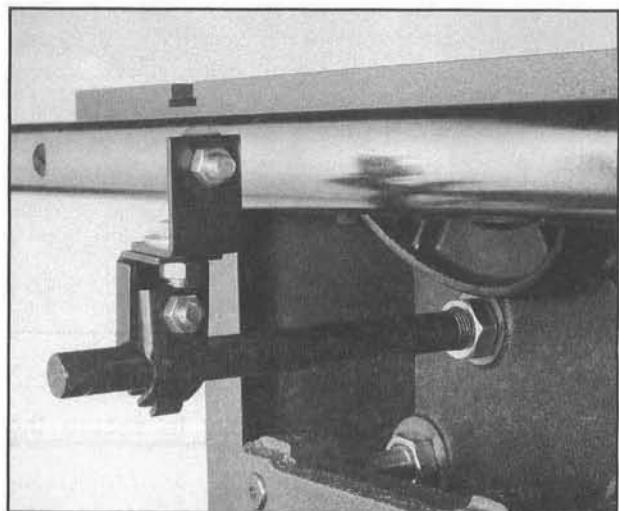

Figure 22.
1. Screw the threaded end of the support shaft into the hole in the back of the rear trunnion. The check nut on the shaft will be used to tighten the shaft in place. Leave it loose for now. **Figure 22.**